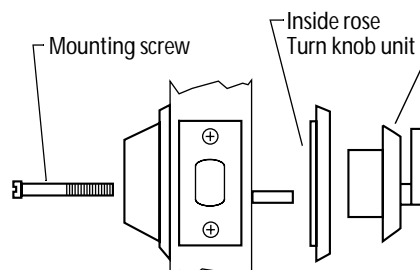

Figure 8 Concealed trim mounting
- With the inside rose and turn knob unit in place, put the two mounting screws through the outside cylinder as shown in Figure 8.